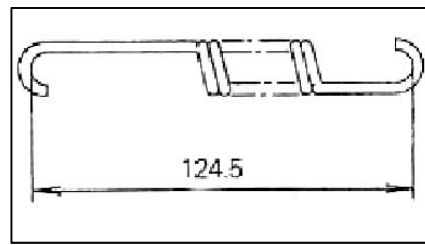

Fig. 5-15
- (7) Measure the free length and installation load of the ejector rod return spring (Figure 5-15);